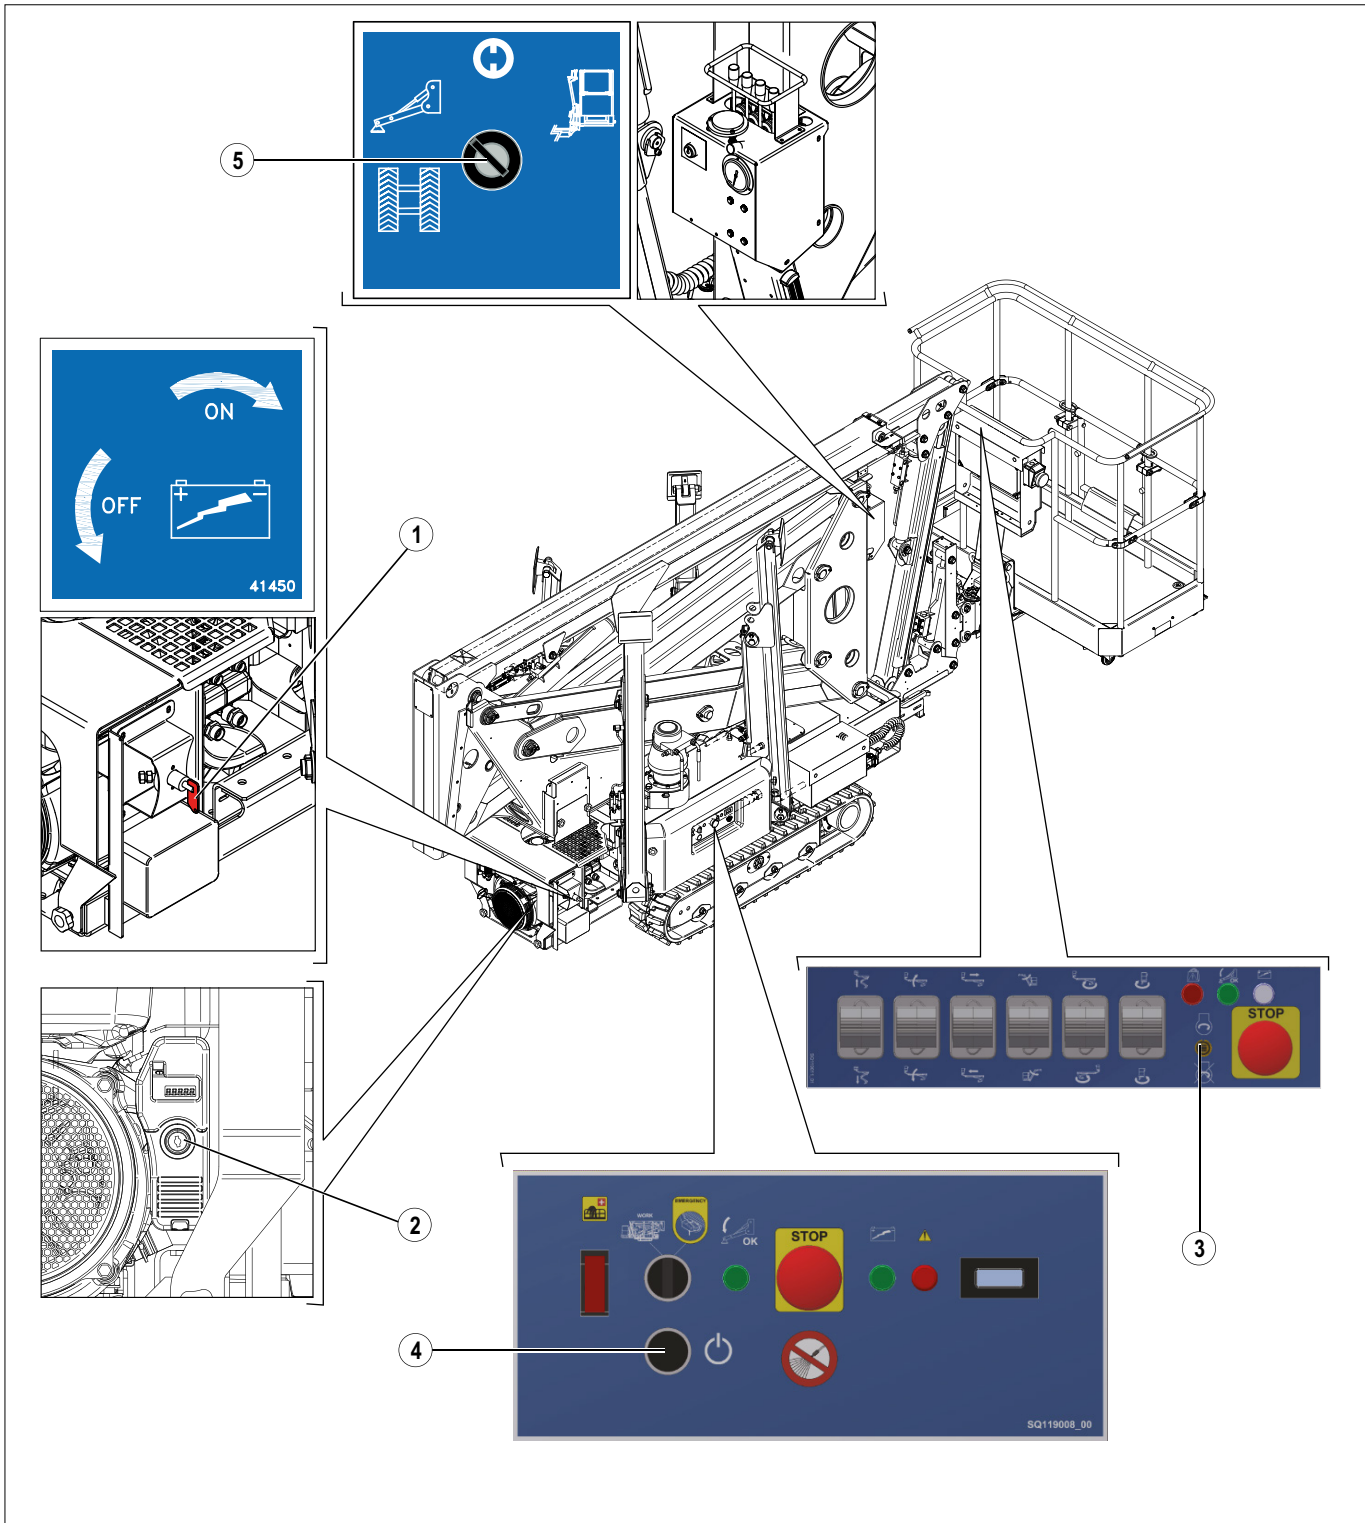

FIG. 25 (Starting with the engine)
- 1) Make sure that the control selector switch (**FIG. 25 - Ref. 5**) is rotated anticlockwise. In the central position, the platform does not start.
- 2) Make sure that the control selector switch (**FIG. 25 - Ref. 6**) is rotated anticlockwise. Turning the selector to the left activates the controls for normal operation.
- 3) Enable the electrical circuit by turning the key selector switch on the battery disconnect panel (**FIG. 25 - Ref. 1**) clockwise
- 4) Turn the endothermic engine start selector (**FIG. 25 - Ref. 3**) clockwise, to the second position, to enable the engine (**Diesel engine only**)
Turn and hold the endothermic engine start selector (**FIG. 25 - Ref. 2**) clockwise, in the third position, until the engine starts (**Diesel engine only**)
Move and hold the “ENGINE” selector on the work platform control panel upwards to “START ENGINE” (**FIG. 25 - Ref. 3**).
Press the power button (**FIG. 25 - Ref. 4**) located in the ground control panel
BEFORE STARTING THE MACHINE WITH THE ELECTRIC MOTOR, SWITCH OFF THE ENDOTHERMIC ENGINE BY TURNING THE SELECTOR (FIG. 25 - REF. 2) CLOCKWISE.
- 4) Make sure that the control selector switch (FIG. 25 - Ref. 5) is rotated anticlockwise
- 5) Make sure that the control selector switch (FIG. 25 - Ref. 6) is rotated anticlockwise.
- 6) Enable the electrical circuit by turning the key selector switch on the battery disconnect panel (FIG. 25 - Ref. 1) clockwise
Move and hold the "ENGINE" selector on the work platform control panel upwards to "START ENGINE" (FIG. 25 - Ref. 3).
Press the power button (FIG. 25 - Ref. 4) located in the ground control panel
1) Make sure that the control selector switch (**FIG. 25 - Ref. 5**) is rotated anticlockwise